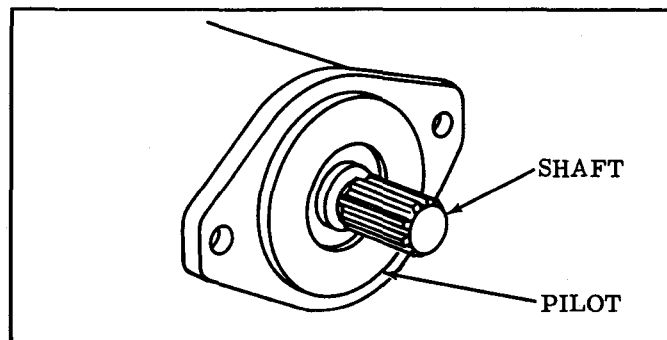

Figure 4.
1. Direct Drives - Care must be exercised when mounting the motor so that the pilot diameter fits properly into the mating section of the prime mover. (See Figure 4.) The pilot should not be forced into the mating part under any condition. Care should be exercised in tightening all flange mounting screws to prevent misalignment of shaft connections.